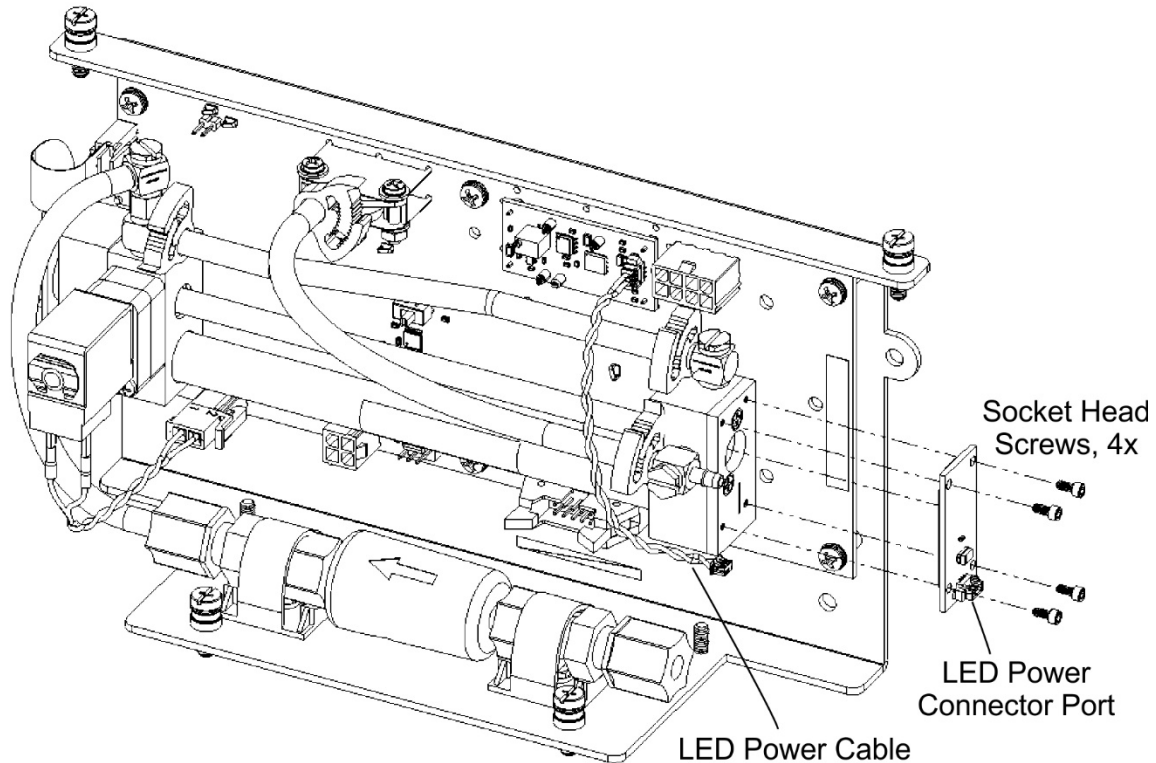

Figure 7-4. UV LED Access
Following ESD-preventive practices use a properly grounded wrist strap and replace the UV LED by first disconnecting the LED power connector and cable depicted in Figure 7-4, then removing the four (4) socket head screws to remove/replace the LED PCA. Avoid damage to the UV LED by only handling the UV LED PCA assembly by the board's edges during installation. After installing and securing the replacement UV LED PCA assembly, perform the UV adjustment steps per Section 7.7.